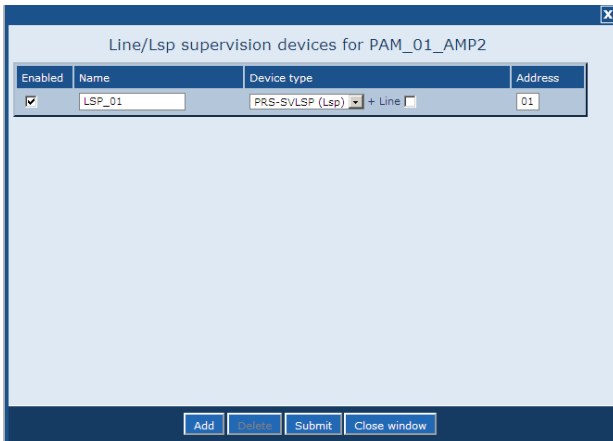

figure 43.17: Add supervision device, step 4
- Click the *OK* button to add the supervision device to the audio output of the power amplifier. A screen similar to the one in figure 43.17 appears.